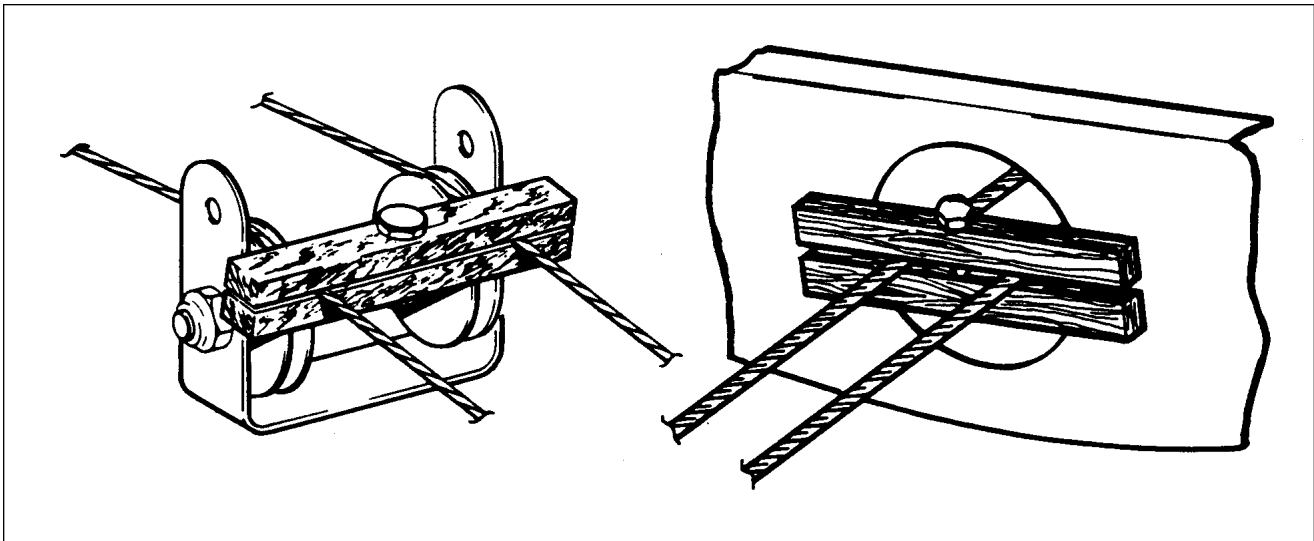

Figure 4-4. Methods of Securing Control Cables
- d. Install cable blocks, as illustrated in Figure 4-4, on the stabilator trim control cable at the first set of pulleys forward of the cable turnbuckles to prevent the forward cable from unwrapping.